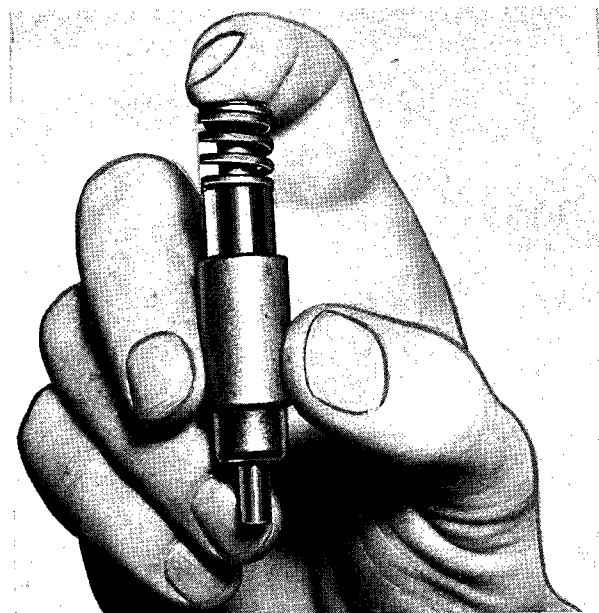

Figure 6-25. Checking Hydraulic Plunger Assembly for Leaks
b. Hold the hydraulic cylinder between the thumb and middle finger in a vertical position with one hand; then place the plunger in position so that it just enters the cylinder (figure 6-25).